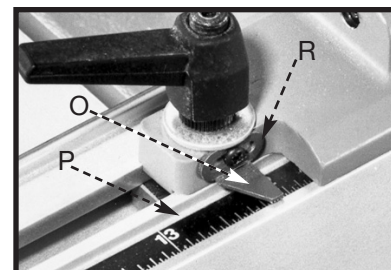

Fig. 48
22. Decide whether to use the metric or English scale. Peel the backing from the scale. (The English scale is used in these examples.) Apply the scale inside the fence channel, lining up the 12" mark on the scale with the pointer (O) Fig. 48. Make adjustments to the pointer (O) by loosening the screw (R), adjusting the pointer (O) and tightening the screw (R).